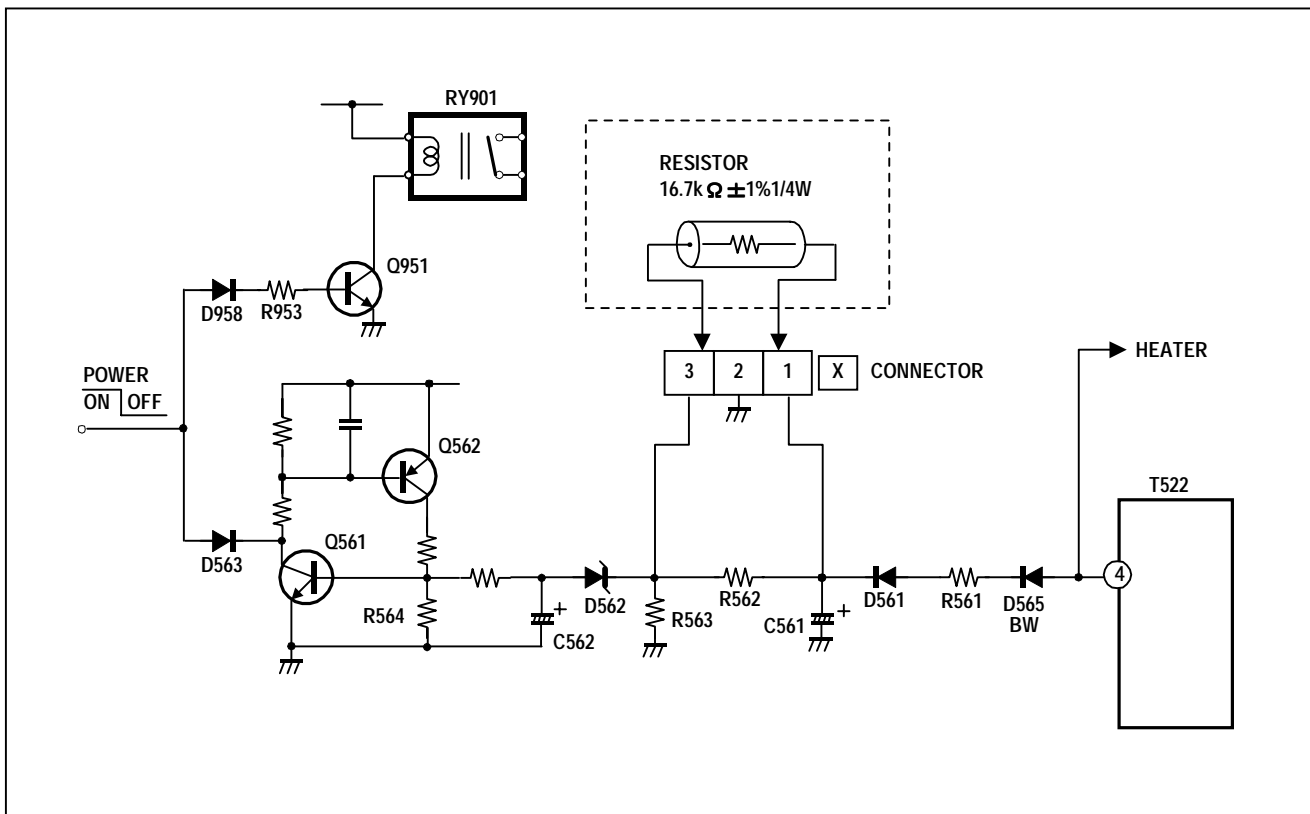

Fig. 1
- (1) Turn the POWER SW ON.
- (2) As shown in Fig. 1, set the resistor (between X connector 1 & 3).
- (3) Make sure that the screen picture disappears.
- (4) Temporarily unplug the power cord.
- (5) Remove the resistor (between X connector 1 & 3).
- (6) Again plug the power cord, make sure that the normal picture is displayed on the screen.